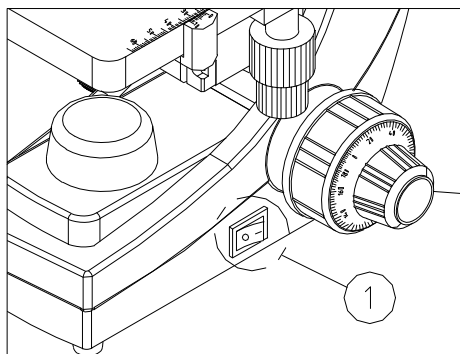

Fig. 8
Before connecting the power cord, make sure the switch is off (O) as shown in ① (Fig 8).